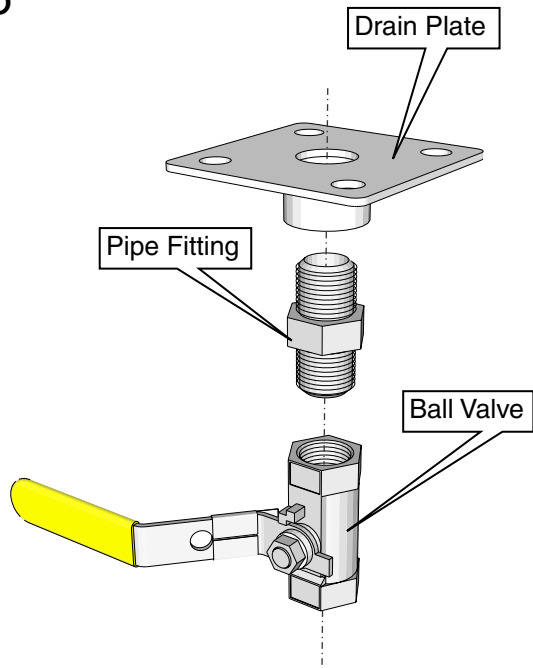

Figure 3.5 Drain Valve Parts
3. Assemble Drain Valve Assembly as shown in Figure 3.5 using plumbers tape.